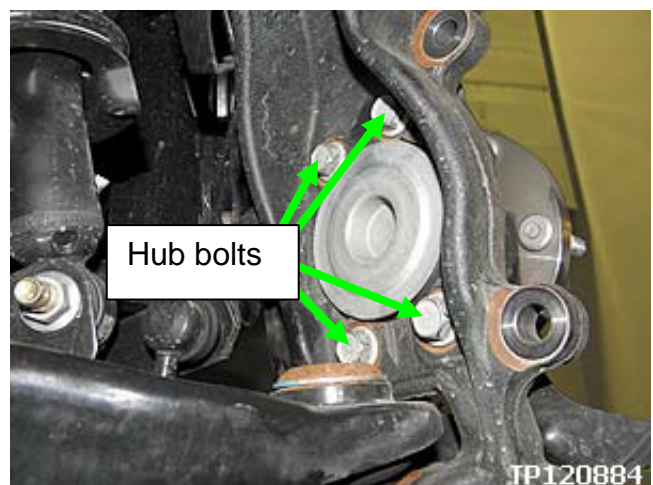

Figure 4
6. Remove the 4 bolts shown in Figure 4.